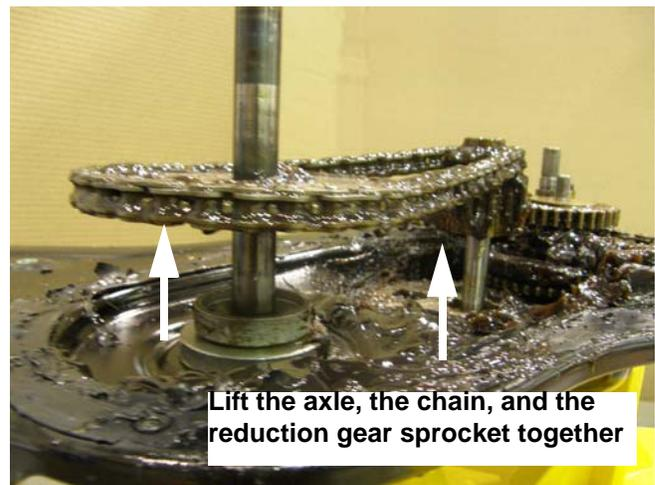

Figure 5.23
4. Lift the wheel axle, drive chain, and speed reduction sprocket out as one assembly. See Figure 5.23.